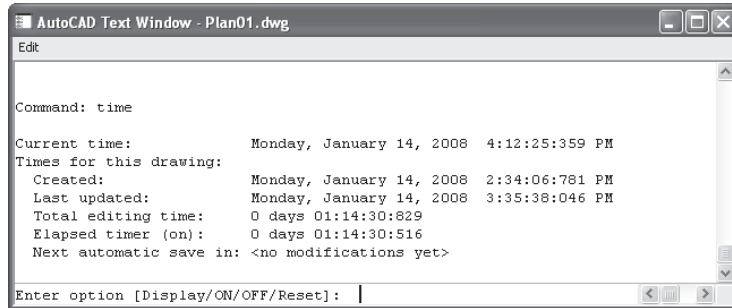

Figure 11.7
2. The Text window displays the time information, as shown in Figure 11.7.
As you can see from Figure 11.7, the information is self-explanatory. You can also turn the timer off by entering **Off**↵ at the prompt in step 3, or you can reset the timer to clear the current values by entering **r**↵.